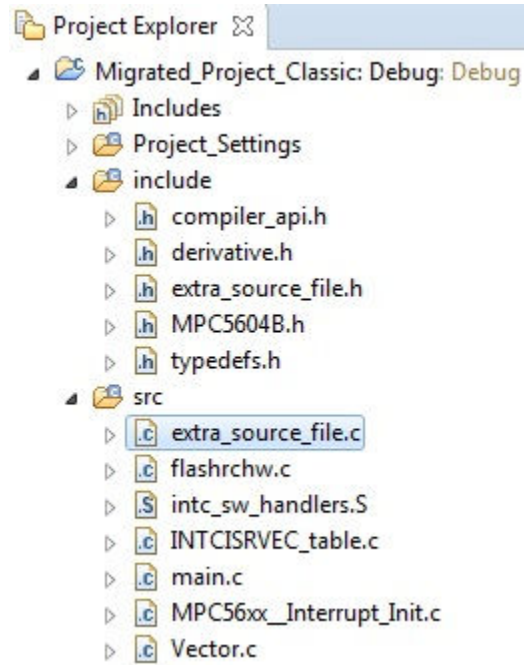

Figure 54. Build config window with extra folders included
The (+) icon means the corresponding folder/file is included in the build for the corresponding build mode (Debug, Release, or Debug_RAM). In this example, *Extra Source Folder* has a (X) in all three build modes so it is currently never included during compilation. Clicking on (X) will turn it into a (+) to include the folder for all three build modes. Then hit *OK*. Figure 54 shows the Build Configurations explorer after the change.